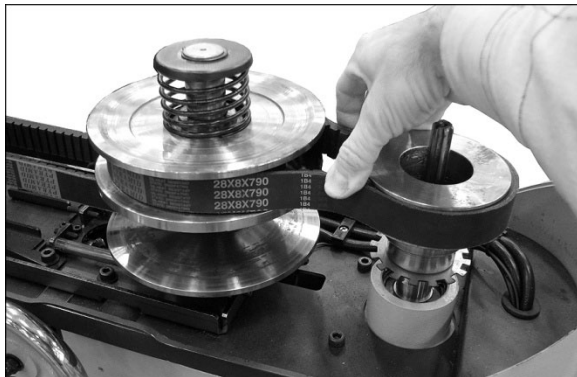

Figure 26
Referring to Figures 26 and 27:
4. Firmly squeeze center section of upper belt to slacken tension. See Figure 26. If needed, pull on belt away from center pulley to further slacken.